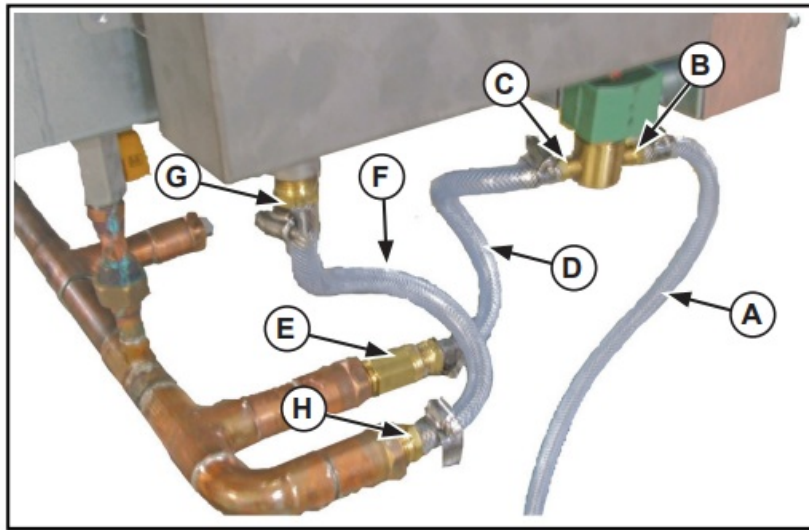

Figure 4. Solenoid Valve, Flexible Hose, and Fittings.
8. Using the section of the flexible hose marked and/or coming from outlet (E) side of the water tank, route this line to an OPEN FLOOR DRAIN. This drain **MUST** not be directly plumbed to the auto fill unit. This is done to prevent contamination of the fresh water supply. See Figure 4.
9. Using the section of the flexible hose (A) coming from the "IN" or "I" side of the solenoid (B) connect this hose to your fresh water source. See Figure 4.